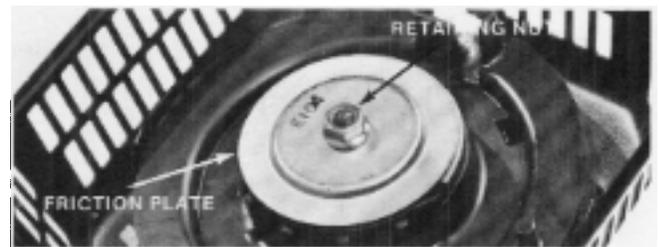

Figure 3-30
2. Turn the starter over and unwind the starter rope to release spring tension on the starter pulley. See step 1, 2, 3 on Rope Replacement, page 21. Carefully remove the recoil assembly retaining nut. The nut is under a slight amount of spring pressure. Slowly back off the nut until the spring pressure is released. See Fig. 3-30.
4. Install the friction disc and mounting nut. Use a thread locker on the nut: e.g. Loctite 242. See Fig. 3-30.